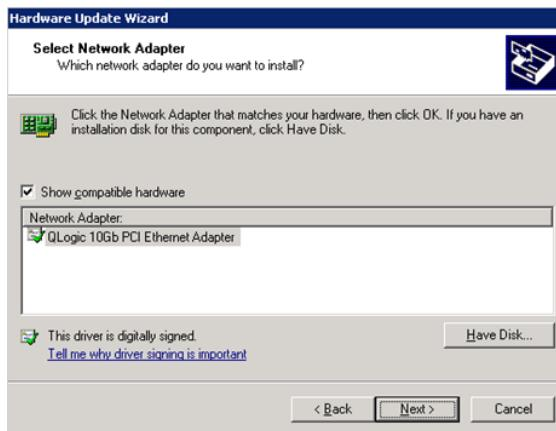

Figure 3-12. Confirming the Ethernet Adapter
12. Confirm that the QLogic 10Gb network adapter is shown in the list of network adapters (Figure 3-12), and then click **Next**.